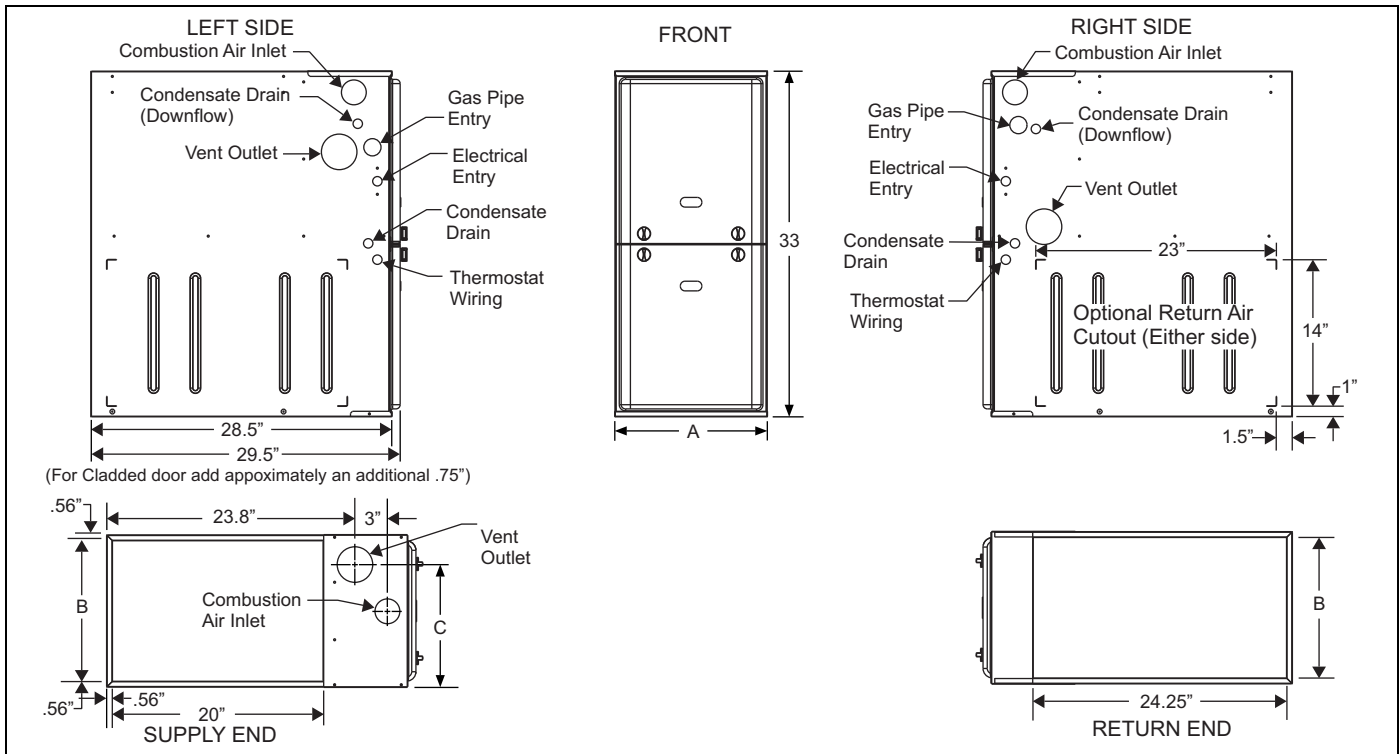

FIGURE 12: Dimensions
*Some accessories such as electronic air cleaners and pleated media may require a larger side opening. Follow the instructions supplied with that accessory for side opening requirements. **Do not** cut the opening larger than the dimensions shown in Figure 12.*
Gas piping may be connected from either side of the furnace using any of the gas pipe entry knockouts on both sides of the furnace. Refer to Figure 12.